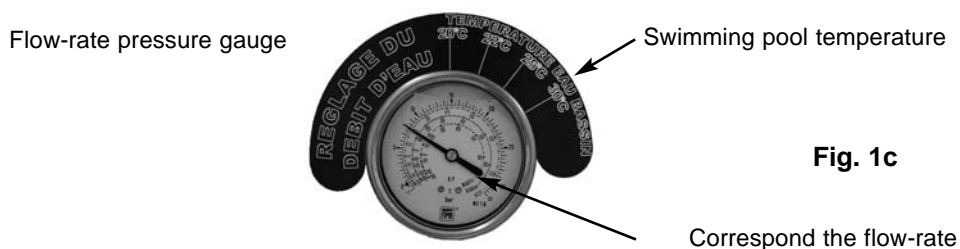

Fig. 1c
- Close gradually the ball-valve n°2 to correspond the flow-rate with the pool Temperature with the pressure gauge located on the side of the heat pump (fig.1c).